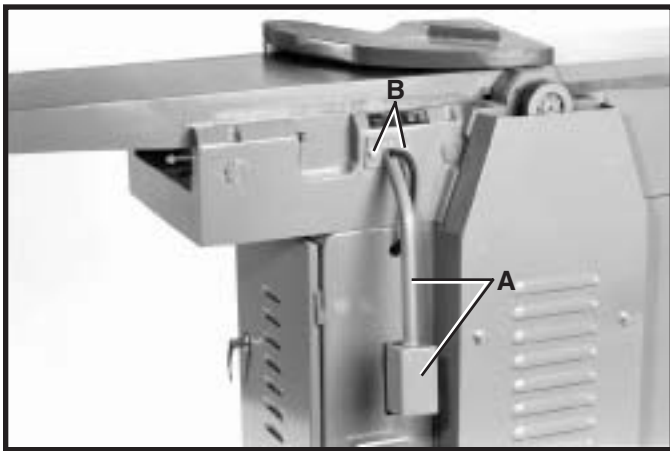
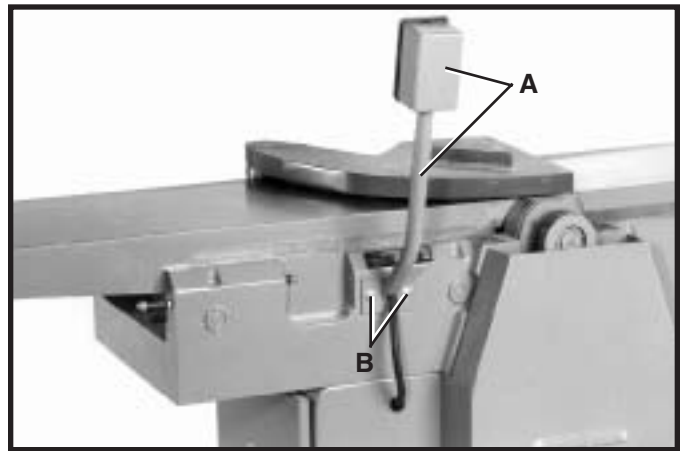

Fig. 9
Fig. 10
1. For shipping purposes, the start-stop switch and switch arm (A) is shipped in the down position, as shown in Fig. 9. Simply remove the two screws (B) Fig. 9, rotate switch and switch arm (A) 180 degrees, as shown in Fig. 10, and replace the two screws (B).